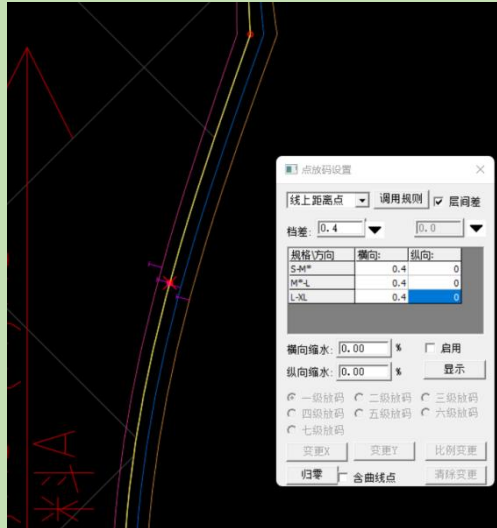

Figure5-51
2. Set the grading amount as shown in Figure 5-51.